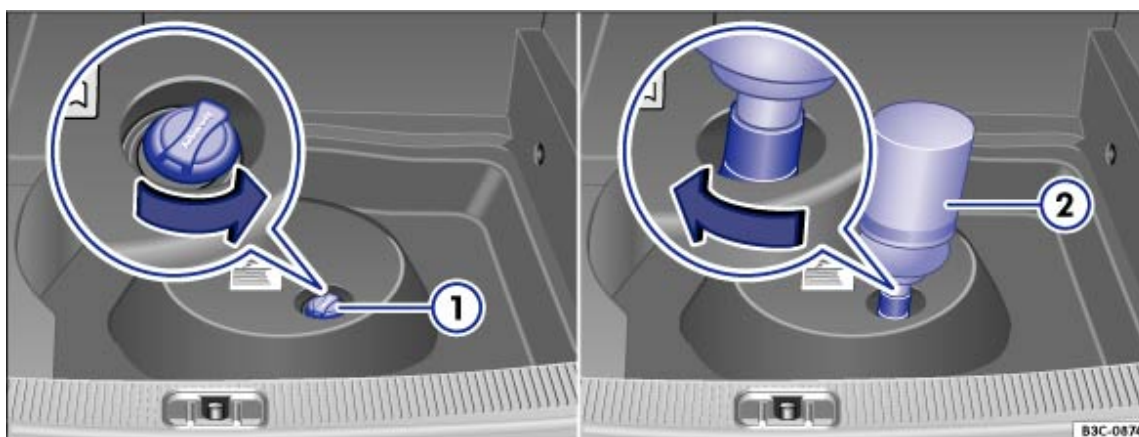

Fig. 191 AdBlue tank with filler neck tank cap and refill bottle
- Unscrew the cap of the tank filler neck → Fig. 191 ① anti-clockwise.
- Place the neck of the refill bottle → *Fig. 191 ②* on the tank filler neck and turn it clockwise hand-tight.
- Screw the cap onto the filler neck → *Fig. 191 ①* clockwise until it engages.